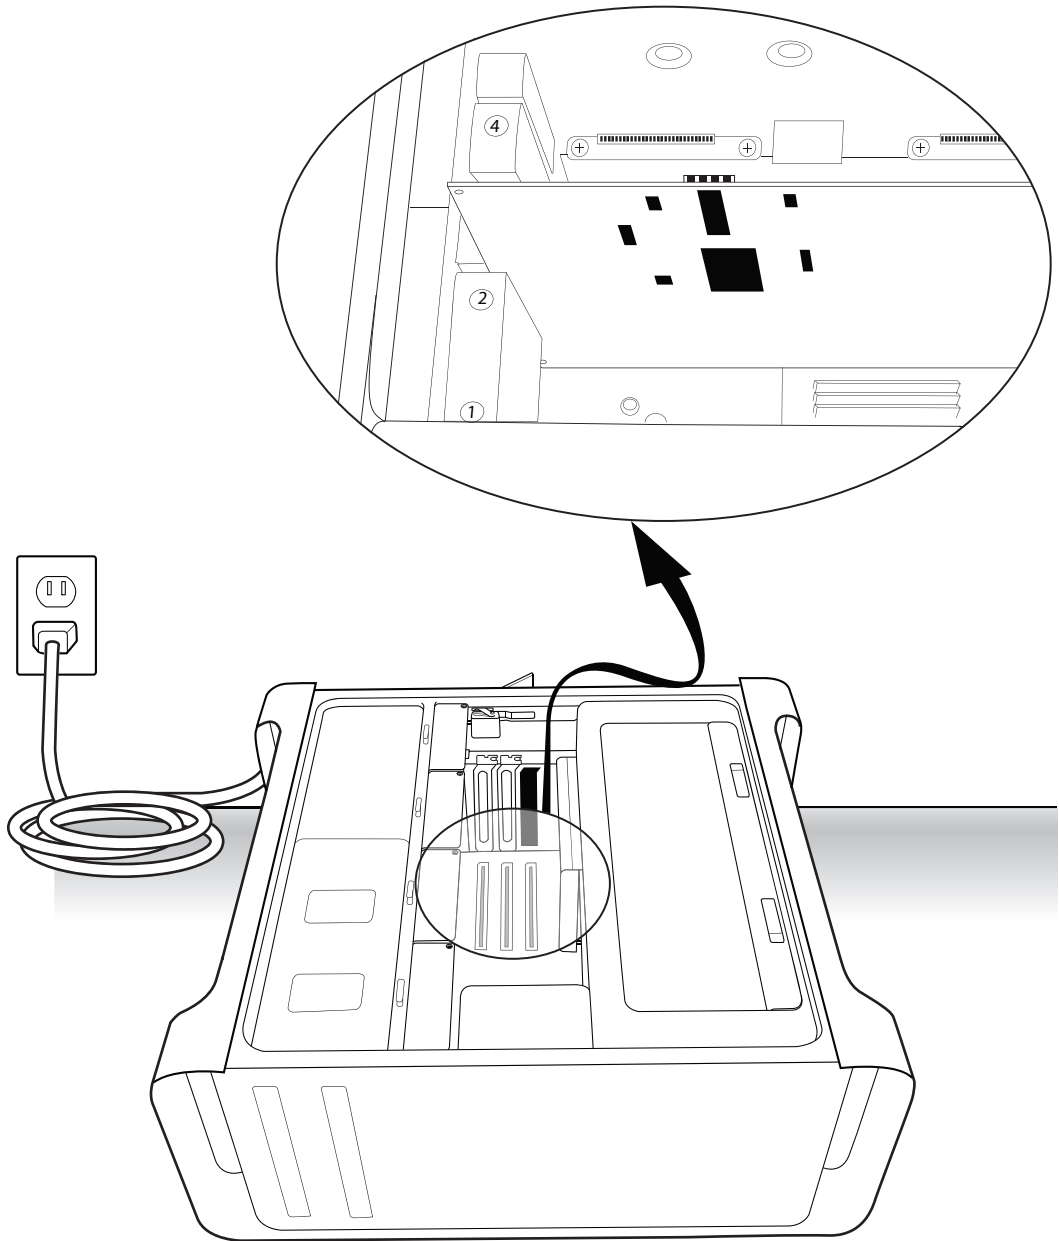

Figure 5. HDX card sliding into the grey plastic PCIe card support
- Carefully slide the back of the card down into the PCIe slot's grey plastic PCIe card support (where the slot numbers appear). (See Figure 5 on page 15.)